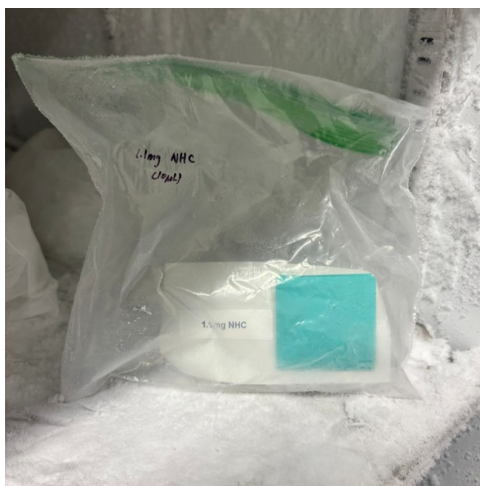

Figure 5: 1.1mg of NHS/50μL of 100 mM MES
- 1 vial (5 uL) of 1.1mg of NHS/50μL of 100 mM MES(Figure 5)